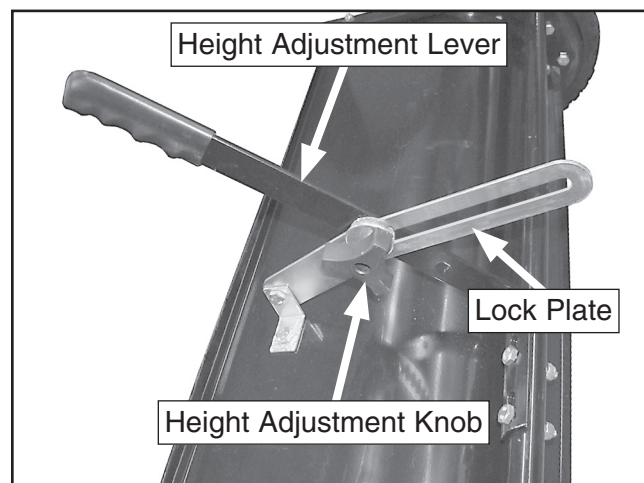

Figure 19. Height Adjustment.
- Loosen the height adjustment knob, then reposition the height adjustment lever. When the desired height is reached, tighten the height adjustment knob (**Figure 19**).